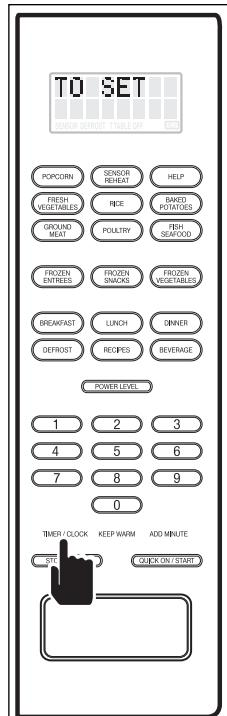

Figure 3-24.
1. Press the TIMER/CLOCK key and "TO SET - KITCHEN TIMER - PRESS 1 - TO SET CLOCK - PRESS 2" will flash on the digital display (See Figure 3-24).